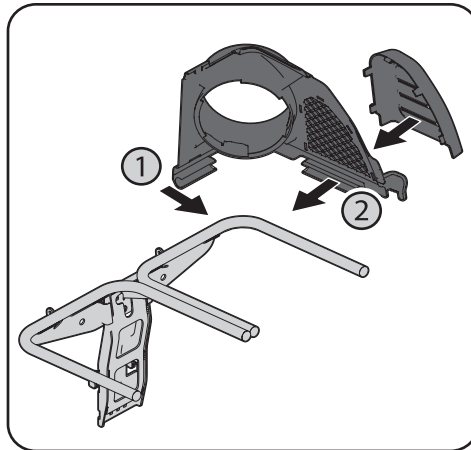

Figure 4-9
2. Snap the plastic upper chute support in place by first clipping the side portion onto the bagger support rail (1) as shown in Figure 4-9.
3. Snap the front side of the chute support to the rail (2) as shown in Figure 4-9.